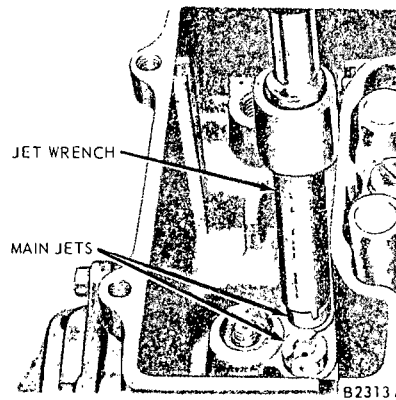

FIG. 18—Main Jet Removal or Installation
3. Remove the primary stage and secondary stage main jets (Fig. 18).
12. Using a jet wrench, install the primary and secondary main jets (Fig. 18). **Be sure the correct jets are installed for the primary and secondary systems (Part 10-11).**